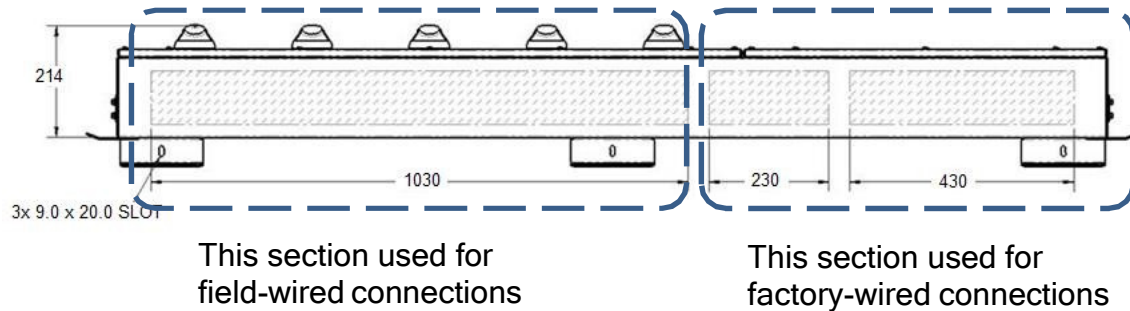

Figure 3.12 Re-Combiner Conduit Entry Locations
2. Note the target area for conduit connections for the PV circuits on the bottom face of the Re-Combiner, as shown in **Figure 3.12**.